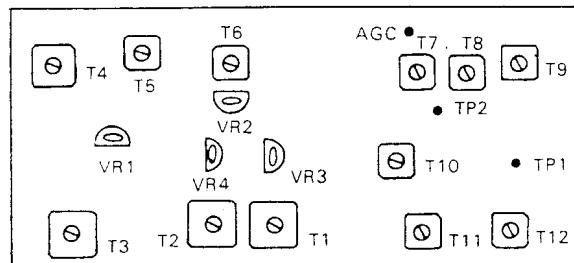
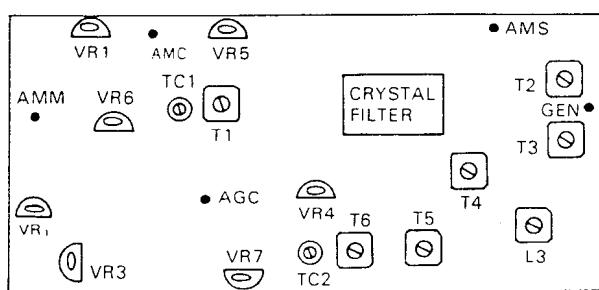

Fig. 18 RX-NB unit
Fig. 19 GEN unit
Decrease the SSG output gradually until AGC disappears. Adjust T4, T5 and T6 (of the GEN unit, Fig. 19), T1, T2, T3, T4, T5, T6, T7, T8 and T9 (of the RX NB unit, Fig. 18) in such a way that the pointer of the AF VTVM will deflect to the farthest possible position on the scale. Hold the SSG output always at such a level as will not cause the "S" meter pointer to deflect.
- 1) Connect the vacuum-tube voltmeter to TP3 (Fig. 18).
- 3) Minimize the DC voltage at TP2 by adjusting T8 ~ 10 (Fig. 18).
- 1) Adjust VR4 (Fig. 18) to make the pointer of this meter stay at "0" on the scale in the condition of non-reception of the signal.
- 4) Adjust VR2 (Fig. 18) to deflect the meter pointer to "9". Repeat the process, step 1) to 3), two or three times.
- 2) Adjust VR7 and TC2 (Fig. 19) to minimize and equalize the "S" meter deflection for the two sideband signals, USB and LSB.
- 2) Adjust VR3 (Fig. 18) in such a way that the RF meter pointer will deflect to "8" (RF scale).
- 1) Referring to Fig. 19, connect the frequency counter or RF VTVM to the GEN terminal.
- 2) With MODE in FM position and STANDBY (STBY) in SEND position, adjust T3 (Fig. 19) to maximize the RF output voltage.
- 3) Adjust L3 (Fig. 19) to obtain a frequency of 10,700 MHz.
- 6) Adjust VR3 (Fig. 19) for 5 kHz frequency deviation.